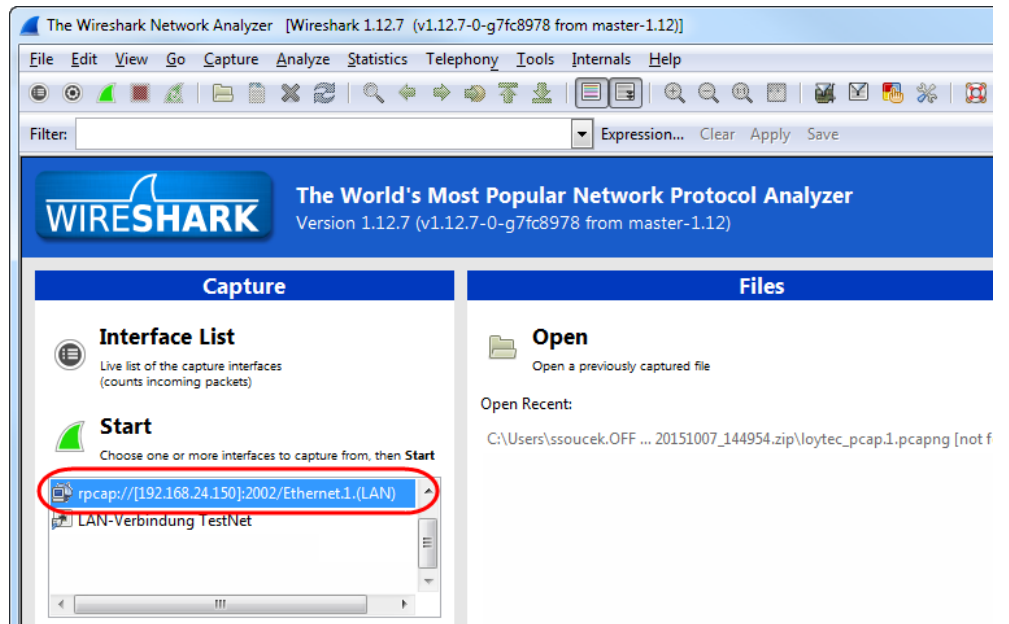

Figure 160: Start Remote Capture in Wireshark.
2. Click the **Start** button as shown in Figure 160.